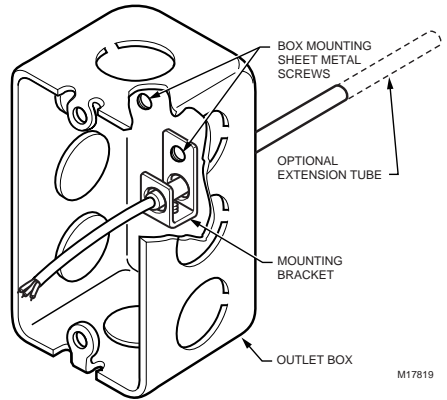

Fig. 3. Duct or light troffer mounting where wiring must be run in conduit.
**NOTE:** A piece of 3/8 in. diameter conduit can be used to extend the sensor further inside a duct (see Fig. 3). The use of such an extension can increase the maximum insertion length to approximately 9-1/2 in.